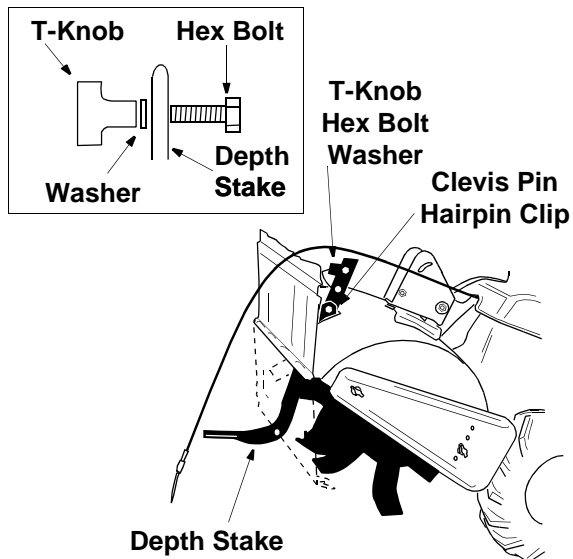

Figure 1
- Raise the tine shield hinge flap assembly. Remove "T" knob, flat washer and hex bolt from depth stake. Insert the depth stake assembly in front of spacer (under the tine shield) and up through the tine shield assembly as shown in Figure 1.
- Insert hex bolt into the top hole of the depth stake assembly. Place flat washer on hex bolt and thread "T" knob onto the hex bolt. See Figure 1. Tighten securely.